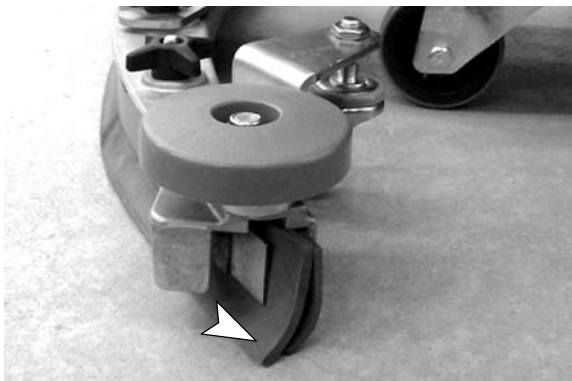

FIG. 54
3. During machine operation, with the casters properly adjusted, the squeegee blades should deflect as shown (Figure 54).